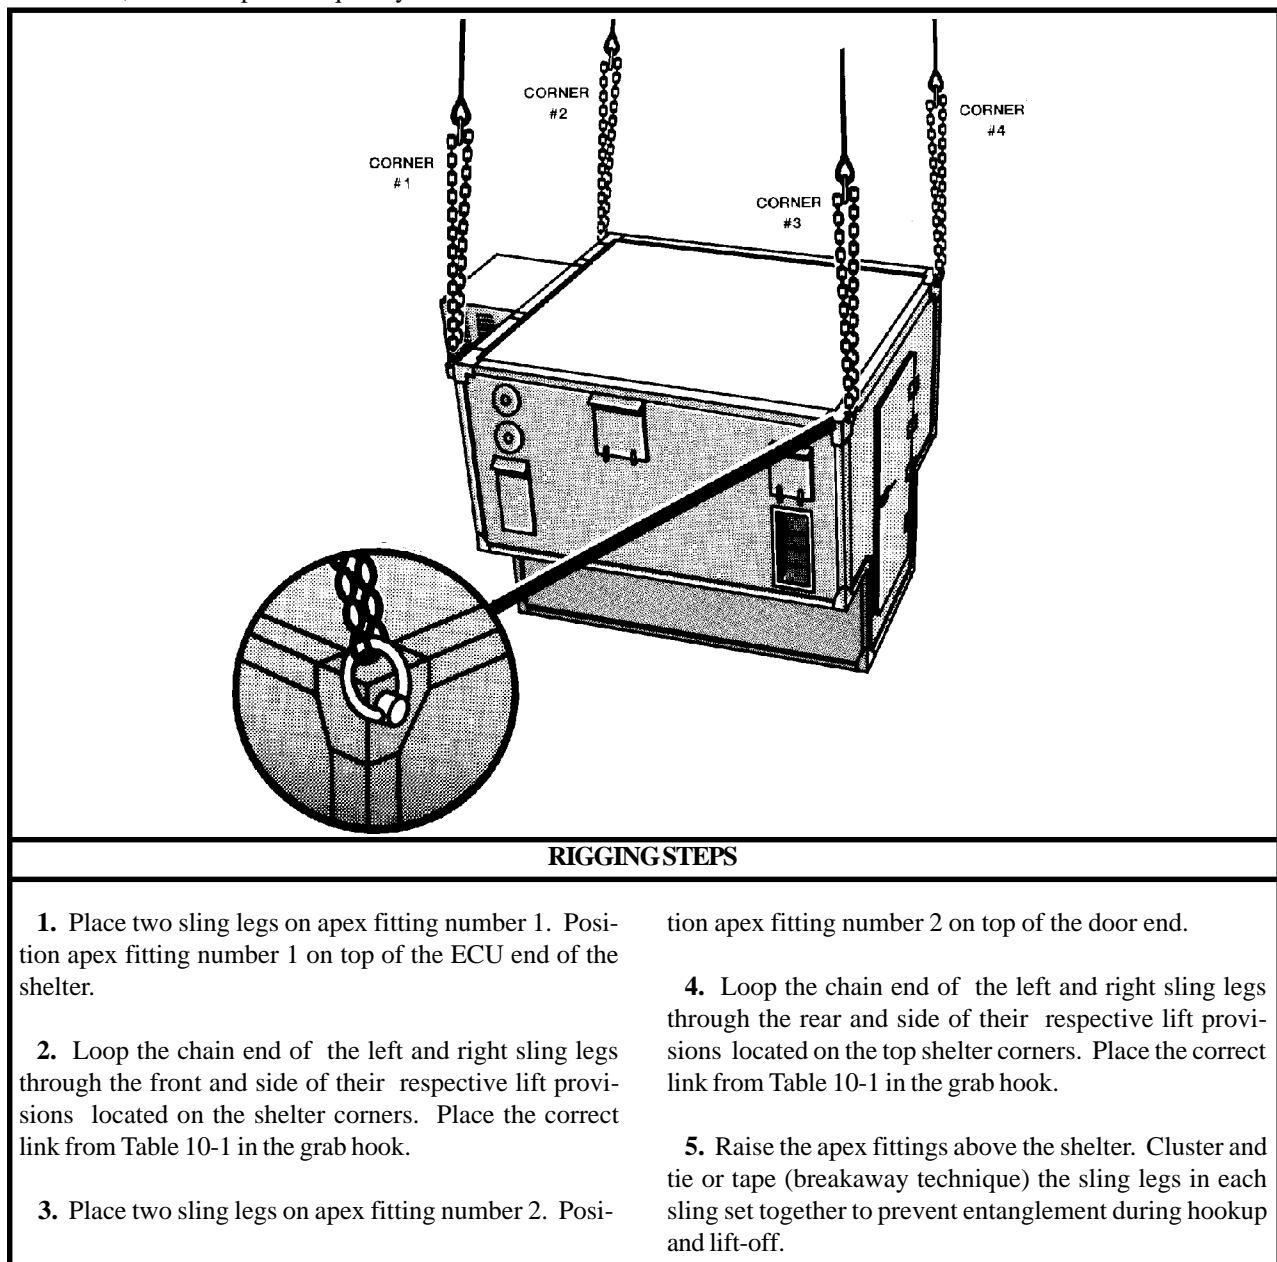

Figure 10-1. S-250 Shelters
(2) Rigging. Rig the load according to the steps in Figure 10-1.